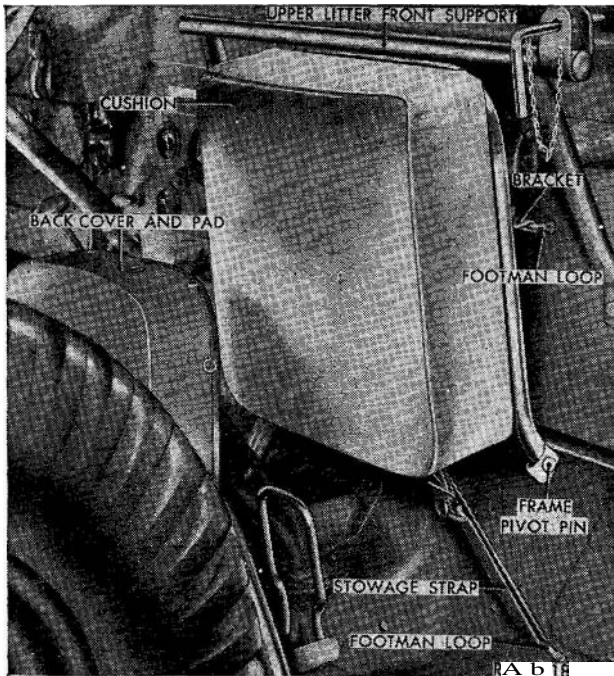

Figure 23. Front passenger seat cushion (M170)—in stowage position
the cushion (fig. 23). Lift the cushion up until the front passenger seat frame pivot pins are clear of the brackets on the windshield frame and remove cushion from windshield. Position the cushion in the driver's compartment so the frame pivot pins (fig. 22) are over the seat hinge pivots on the floor pan. Align the flat sides of the pins with the flat faces of the pivots and insert the pins into the pivots. Tilt the seat cushion rearward until the frame rests on the floor pan.
- (2) Position the front passenger seat cushion (fig. 23) against the instrument panel so the pivot pins point down, and insert the two brackets on the frame of the seat into the footman loops on the instrument panel. Fasten the passenger seat stowage strap, secured to the cushion, to the footman loop on the floor pan. Fasten the passenger seat stowage strap, secured to the footman loop on the instrument panel, to the frame of the seat cushion.